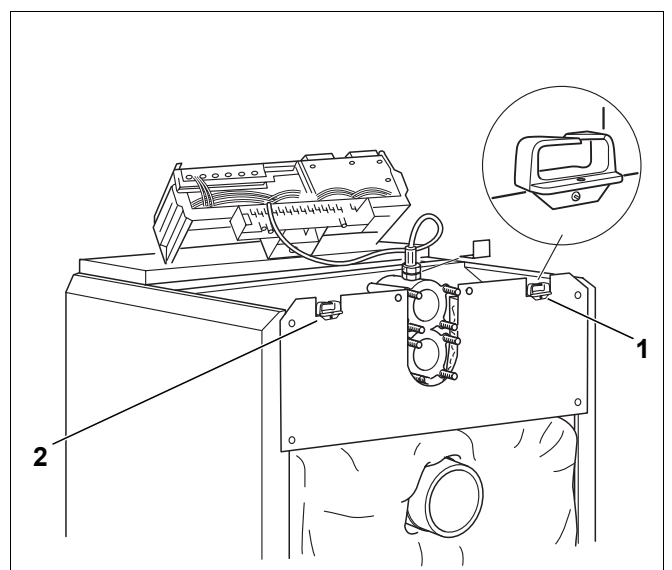

Fig. 46 Electrical connection
- Secure the cable gland (Fig. 46, **Item 1 & 2**) on the l.h. and r.h. side to the rear of the boiler.